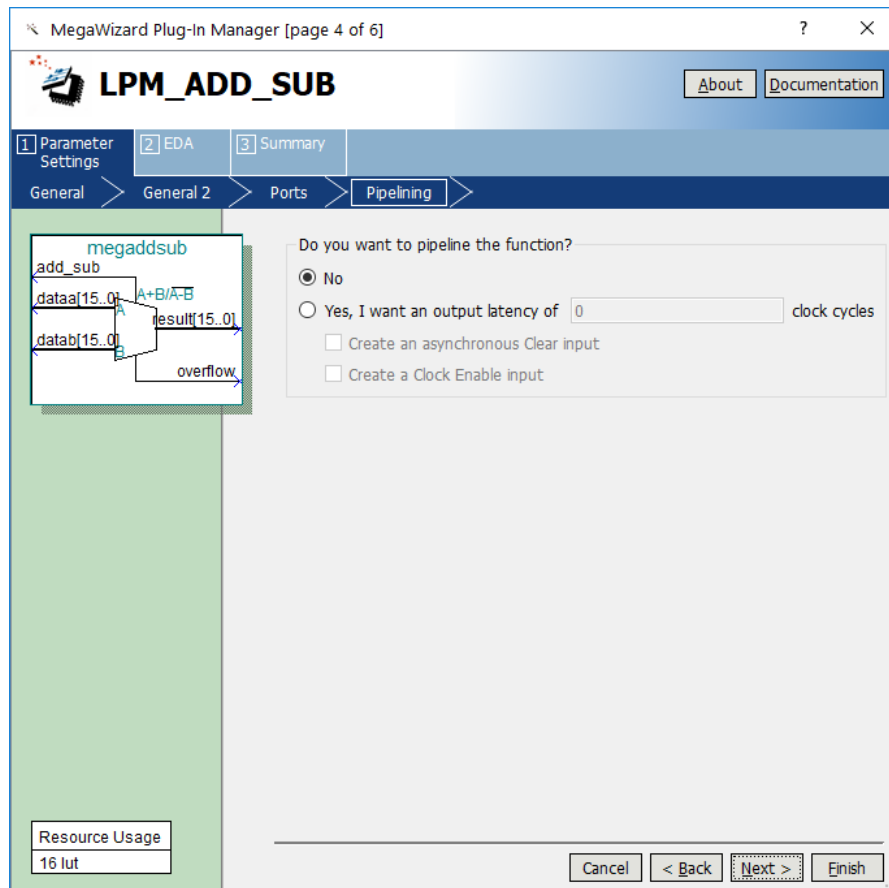

Figure 9. Refuse the pipelining option.
7. In the box in Figure 9 say NO to the pipelining option and click Next.